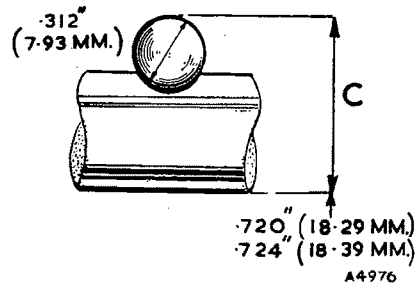

Fig. FF.2
attention to the third speed notch nearest the centre of the rod. It is not intended that the smaller central (neutral position) notch should be included in this check. Measure the diameter of the detent ball, using a micrometer (Fig. FF.2). Place the ball in each of the deeper notches in turn and measure the distance (C) (Fig. FF.2). If this measurement is greater than .724 in. (18.39 mm.) a new fork rod providing dimension (C) in both the third and fourth speed notches should be selected and fitted. The depth of these two detent notches was increased by .018 in. (.46 mm.) on later gearboxes to give the dimension shown in Fig. FF.2.
- (4) Following the procedure given in Section FF.2, remove the third motion shaft (mainshaft) assembly from the gearbox. Remove the top and third gear synchronism sleeve and hub with its baulk rings. Press down the third speed thrust washer locating plunger. Turn the thrust washer to align its splines with those on the shaft and remove the washer. Withdraw the third speed gear and its bronze bush. Withdraw the bush interlocking washer to release the second speed gear with its bronze bush and baulk ring. Check with a micrometer the outside diameter of the bronze bushes. This should be 1.3115 to 1.312 in. (33.308 to 33.321 mm.). Ensure that this dimension is constant throughout the length of each bush. If the bushes are worn fit new phosphor-bronze bushes (Part Nos. 11G3028 and 11G3029). These were reintroduced at Gearbox No. 24001 to replace the sintered bronze bushes used previously.